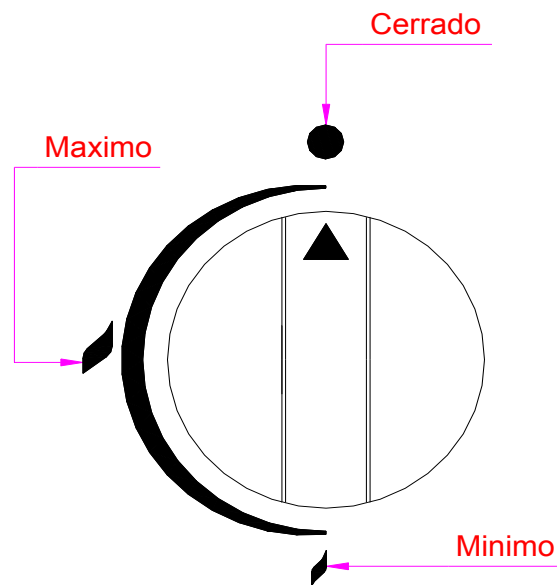

Fig. 3
- b) Press in the control of the required burner and make a quarter turn anti-clockwise until the "maximum" position is reached (**Fig. 3**).
- d) To set the control to "minimum", turn the control anticlockwise from the "maximum" position until reaching the "minimum" one, without pressing (**Fig. 3**).